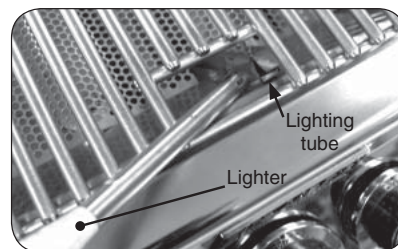

Fig. 15-2 - Manual lighting
Note: If the burner must be lighted manually, visually inspect the ignitor in the lighting tube (Fig. 15-2) while holding down the ignitor button. If it does not glow orange, check the electrical connections.
2. Insert either a burning long-barrel butane lighter or a burning long-stem match through the cooking grid opening to the top of the lighting tube. (Fig. 15-2). For backburners, hold the flame against the perforated material of the backburner.
4. If the burner does not light, **immediately depress the knob and turn the valve to OFF**. **WAIT FIVE (5) MINUTES** before repeating steps 2 through 4 of the MANUAL LIGHTING instructions.